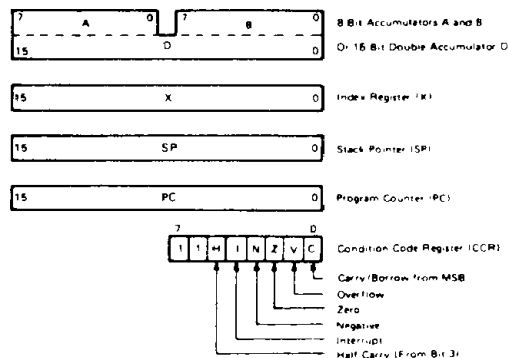

Figure 25 CPU Programming Model
- CPU Programming Model (refer to Fig. 25)
Fig. 25 depicts the HD6301X0 programming model. The double accumulator D consists of accumulator A and B, so when using the accumulator D, the contents of A and B are destroyed.